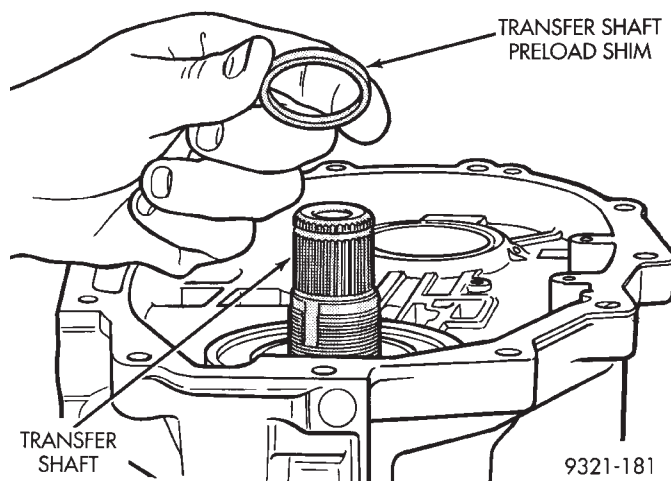

Fig. 330 Transfer Preload Shim Installation
(41) Install Transfer shaft preload shim (Fig. 330). Use the original shim that was taken out of transaxle if possible. If original shim is not available, use the thickest shim as a starting point. Refer to Transfer Shaft Rear Shim Chart for available sizes.
(42) Install rear transfer shaft cone. Press cone on transfer shaft using Special Tool MD998805.
(43) Remove transfer shaft support fixture (special tool 6595).